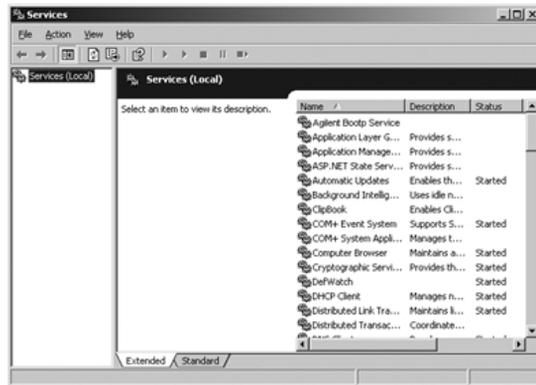

Figure 46 Windows Services screen
- 1 In the Windows control panel, select **Administrative Tools > Services**. The **Services** screen appears, see Figure 46 on page 245.